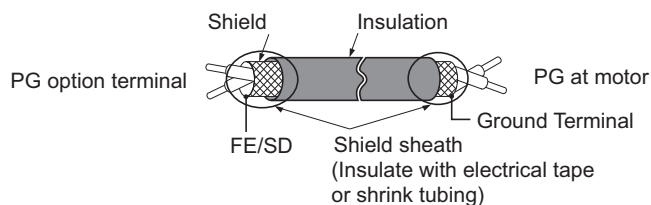

Figure 51 Preparing Ends of Shielded Cable
4. Prepare and connect the wire ends as shown in Figure 51 and Figure 52. Refer to Table 90 on page 201 to confirm that the proper tightening torque is applied to each terminal. Take particular precaution to ensure that each wire is properly connected and wire insulation is not accidentally pinched into electrical terminals.
Wire the motor PG encoder to the terminal block on the option using a HEIDENHAIN 17-conductor cable. Refer to Figure 51 and Figure 52 for wiring instructions. Refer to Figure 53 for the connection diagram.
Wire the motor PG encoder to the terminal block on the option using a HEIDENHAIN 8-conductor cable. Refer to Figure 51 and Figure 52 for wiring instructions. Refer to Figure 54 for the connection diagram.
Wire the motor PG encoder to the terminal block on the option using a SICK STEGMANN 8-conductor cable. Refer to Figure 51 and Figure 52 for wiring instructions. Refer to Figure 55 for the connection diagram. Refer to Table 92 on page 202 for a detailed description of the option terminal functions.